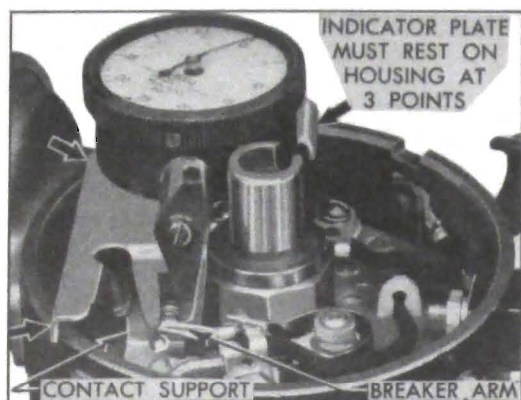

Figure 10-58—Indicator for Checking Contact Point Opening
8. Depress stem of Indicator J 3955-A so that attached finger will clear breaker arm then slip indicator locator over the contact support so that it straddles the point; release indicator stem. The *long* end of finger must be set so that the edge bears against breaker arm close to the point, and base plate of indicator must contact distributor housing at three points. Set dial indicator at zero. See figure 10-58.